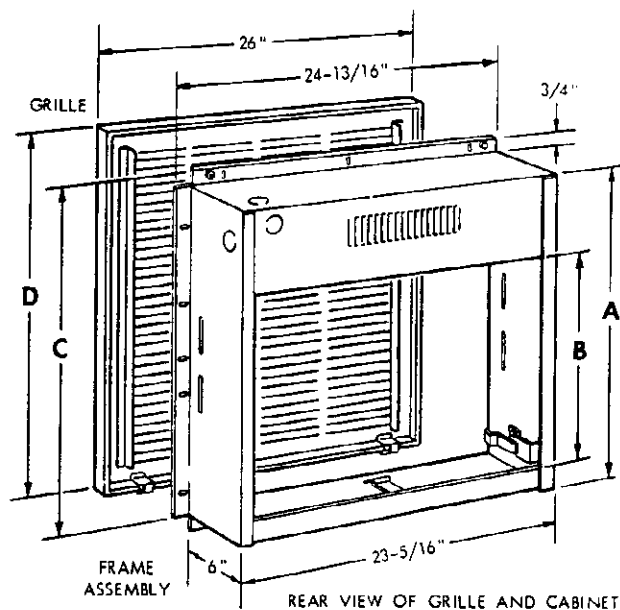

Figure 8
5. Enough room is left at a corner or wall offset to permit installation of the grille. (See figure 8.)
1. Mark the cutout area. (See figures 8 and 12 through 14 for dimensions.)